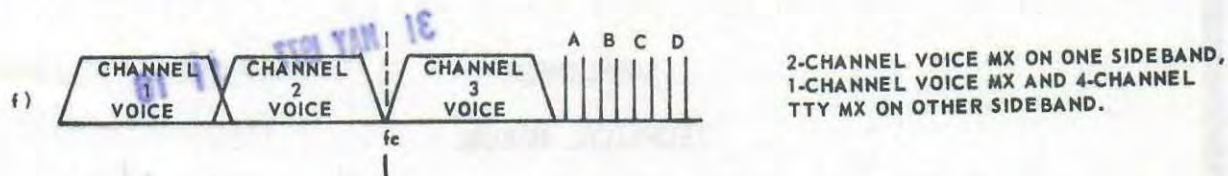

FIGURE 1.
e. On page 1-6, Fig 1-2, illustration f) is changed as shown in Fig. 1.